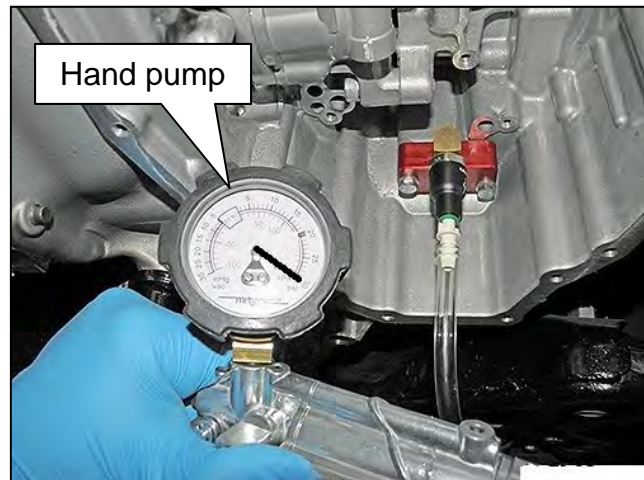

Figure 31
- b. Connect the hand pump from Evap Pressure Test Kit (J-42909) to the Clutch Engagement Tool (J-52273) and pump to 30 PSI (Figure 31).